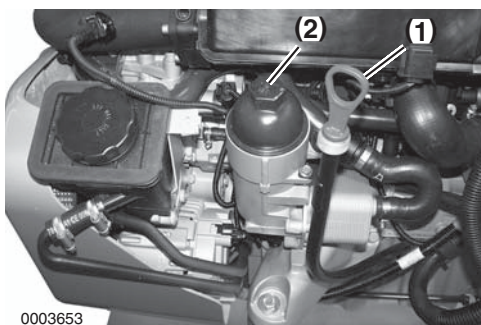

Figure 8-6
3. **NOTICE: NEVER use an adjustable wrench or other open-end tool as there is a risk of damaging the filter cover.** Loosen the engine oil filter cap (**Figure 8-6, (2)**) 1 - 2 turns with a socket wrench.
4. Remove the engine oil dipstick (**Figure 8-6, (1)**). Attach an oil drain pump and pump out the oil. Dispose of waste properly.
5. Remove the engine oil filter cap (**Figure 8-6, (2)**) and filter assembly.